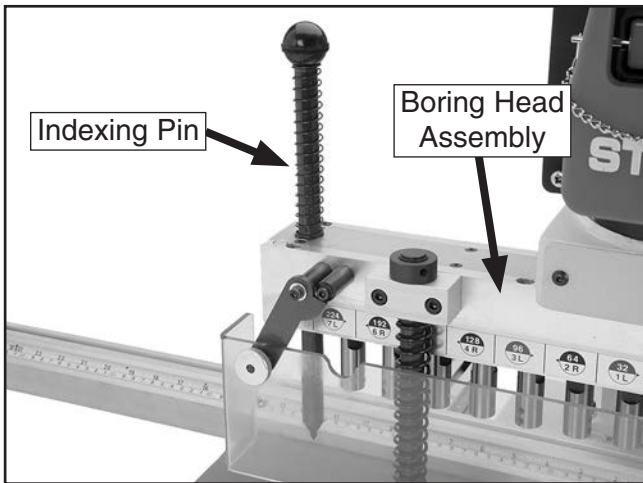

Figure 15. Indexing pin mounted in the boring head assembly.
- Slide the indexing pins with springs into the holes at the ends of the boring head assembly, as shown in **Figure 15**.